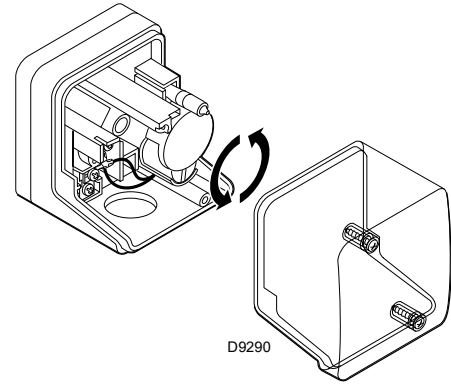

Fig. 34
- Adjust the low gas pressure switch to the start of the scale (Fig. 34 on page 31).
Adjust the minimum gas pressure switch (Fig. 34) after having adjusted the burner, the gas valves and the gas train stabiliser. With the burner operating at maximum output: